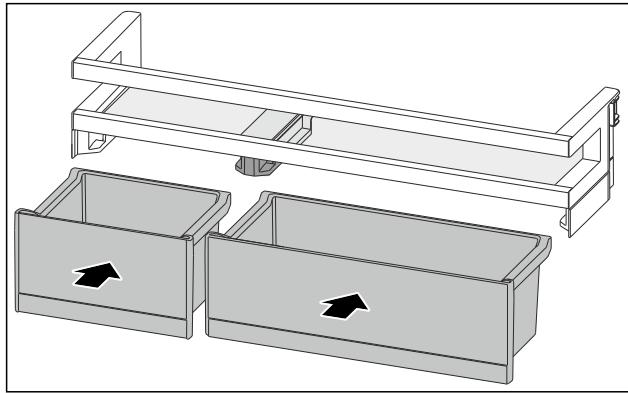

Fig. 114
- Insert the VarioBoxes in reverse order. (see Fig. 114)